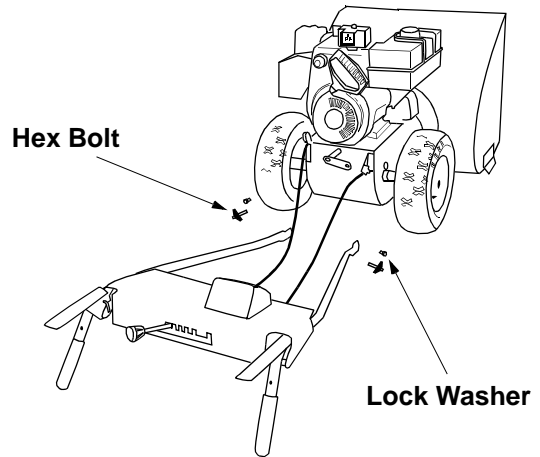

Figure 7
- Lay handle assembly behind snow thrower. See Figure 7.
- Insert a hex bolt 3/4" long and lock washer through the lower hole on the bottom of the handle. See Figure 7.